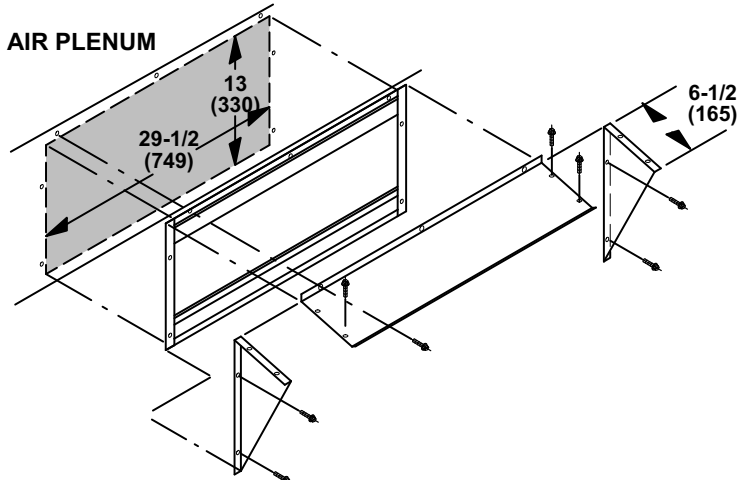

FIGURE 27
For horizontal applications, a separately ordered horizontal discharge kit is required. The horizontal, field-fabricated return air duct must be sized to accommodate the gravity exhaust damper and hood shipped with the economizer. A separately ordered low profile gravity exhaust damper (LAGEDH) and hood kit is available for size restricted applications. See figure 27.
- 2 - Secure hood sides to hood top as shown in figure 27.
- 5 - Slide combined exhaust damper assembly into plenum opening and secure using screws provided. See figure 27.